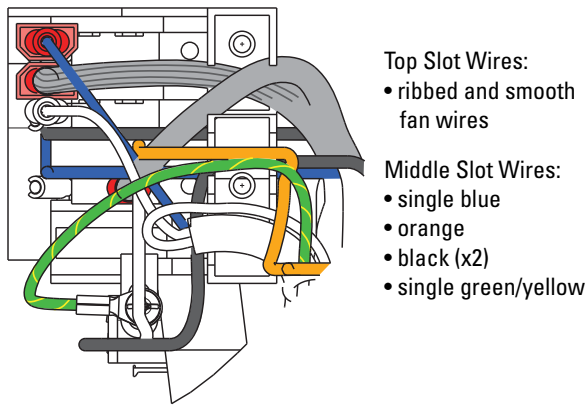

Figure 8: 230 VAC route and secure wires
11. Route the wires, align and tighten the retainers (Figure 8).